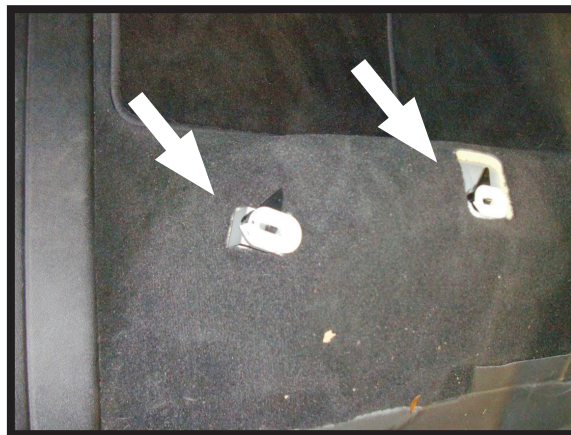

FIGURE 25
1. REMOVE REAR SEAT BY PULLING LEVERS UNDER CUSHION, 2 PER SIDE AND LIFTING SEAT. (FIGURE 25)